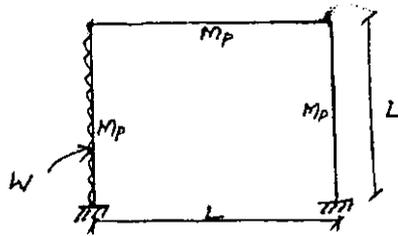

Fig. 1
15. (a) Find out the collapse load for a portal frame of uniform cross section shown in Fig.1.